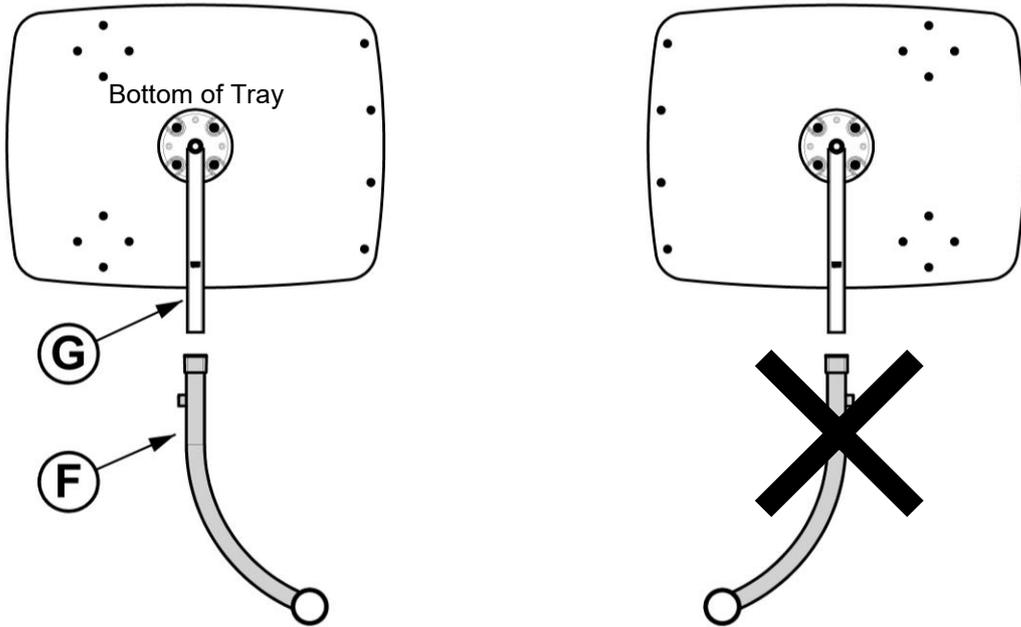

FIGURE 9
9. Slide Curved Arm **F** over support tube on Tray **G** until MAX marking is covered. Ensure Curved Arm **F** curves the correct direction as shown in the **Left** image in *FIGURE 9*.